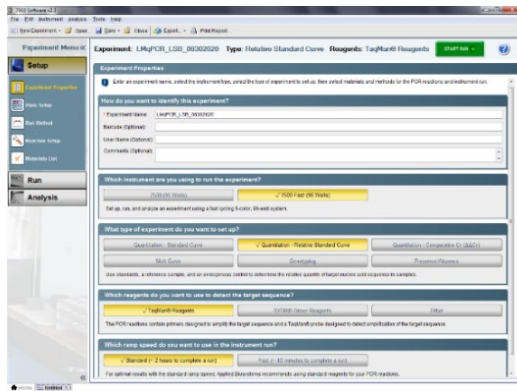

Figure 1. Sample of the “Experiment Properties” section for Setup of the ABI7500 Real-Time PCR run. Yellow buttons are the selected options for this panel.
3. Select setup parameters as indicated in Figure 1.